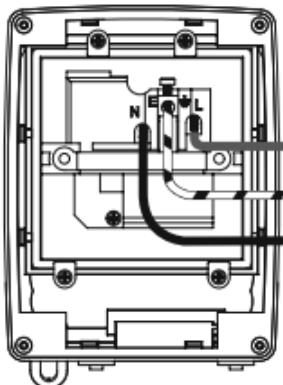

Figure 7
9. Pass though the 230V AC 50Hz mains supply cable and secure the cables tightly to their respective terminals ensuring that all bare conductors are sleeved and that correct polarity is observed, see figure 7, 8 or 9 for the appropriate wiring diagram of your chosen product. Note that if metal conduit is being used the earth continuity between the conduits must be maintained.